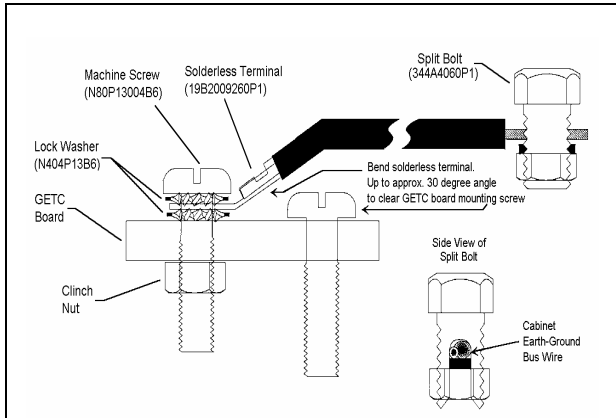

Figure 24 - Lightning-Protection Kit Installation Detail
b. A solderless terminal (19B209260P1), bent approximately 30 degrees so it will clear the board mounting screw, is attached to the end stripped back 1/2-inch on each wire as shown in Figure 24.
2. The solderless terminal end of the wires is then attached to the GETC Logic Board using the lock washers and machine screw as shown in Figure 24. A clinch nut is already mounted to the solder side of the board.
4. When the shelf is installed in the rack, use the split bolts to attach the wires' end stripped 1-inch to the cabinet earth-ground bus wire (part of the Cabinet Grounding Strap Kit 344A4730) as shown in the split bolt side view in Figure 24.